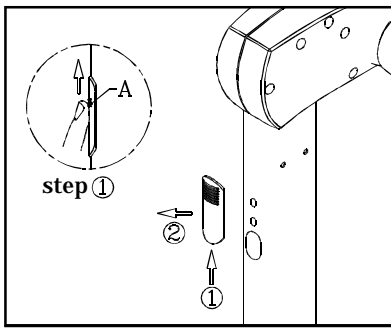

Fig.11
1. (a) Follow the steps 1 and 2 to remove the access cap. (Point A is where to press in step 1) (see fig.11)